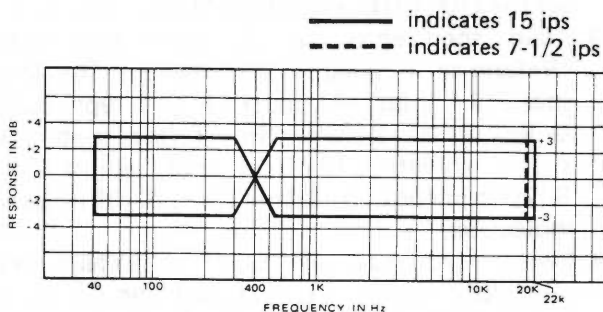

Fig. 2-14. Reproduce Frequency Response
4. Reproduce the test tape and take a reading of the output levels at the specified frequencies shown in Fig. 2-14. They should be within the limit shown below. If not, adjust the REPRO EQ R108 for high speed and R109 for low speed.